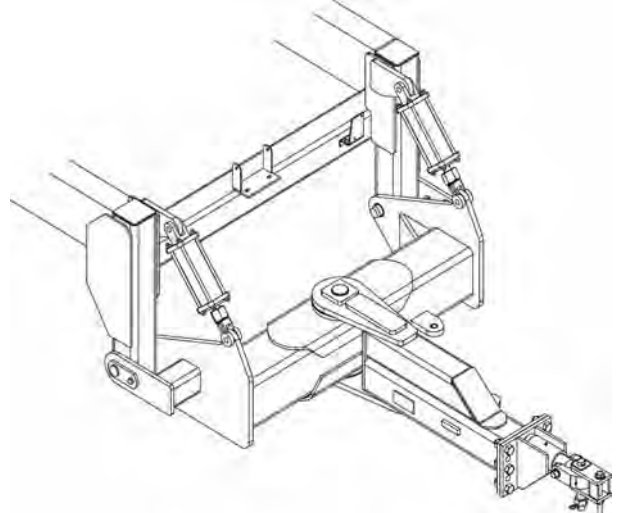

Figure 86 – Harvester Hitch Area
3. Install tongue to cross hitch (see Figure 86). Parts loosely attached. If needed, install the front hitch swivel to the tongue with the six (6) 1 inch (2.54 cm) x 3.0 inch (7.62 cm) bolts provided.